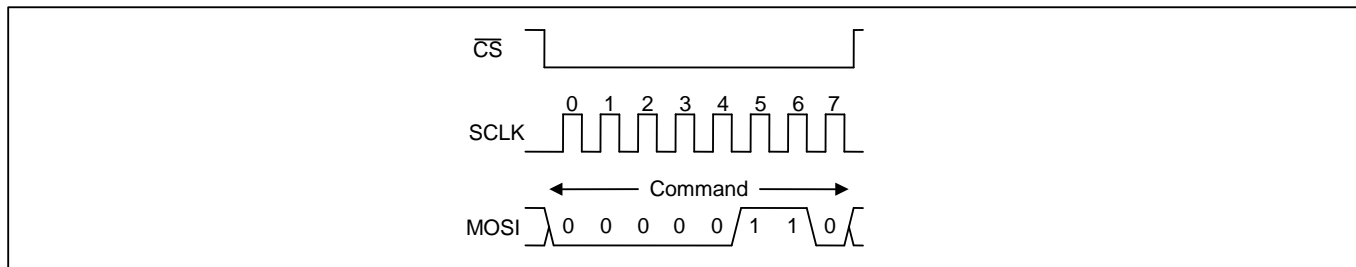
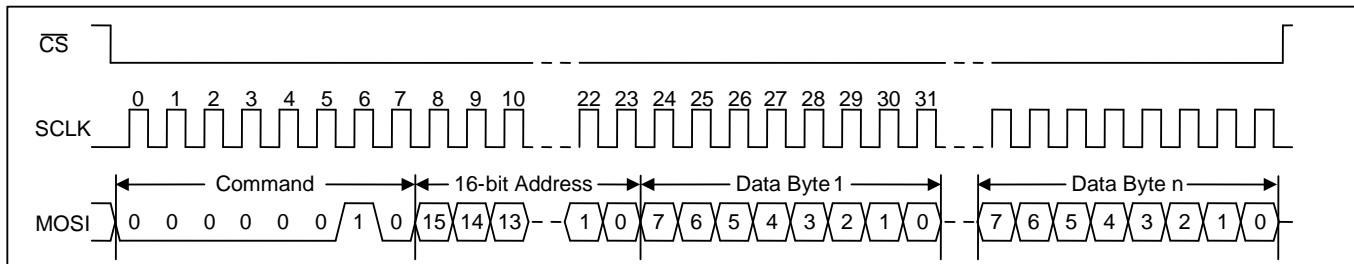

Figure 7 - SPI Write Enable Transaction Functional Timing (ZL30265 and ZL30267 Only)
Figure 8 - SPI Write Transaction Functional Timing
**Register Write Transactions.** The device registers are accessible when  $\overline{\text{ESEL}}=0$ . After driving CSN low, the bus master transmits the write command followed by the 16-bit register address followed by the first data byte to be written. The device receives the first data byte on MOSI, writes it to the specified register, increments its internal address register, and prepares to receive the next data byte. If the master continues to transmit, the device continues to write the data received and increment its address counter. The write transaction is completed when the bus master drives CSN high. See Figure 8.
**EEPROM Writes (ZL30265, ZL30267 Only).** The internal EEPROM memory is accessible when the  $\overline{\text{ESEL}}$  bit is 1. After driving CSN low, the bus master transmits the write enable command and then drives CSN high to set the internal write enable latch. The bus master then drives CSN low again and transmits the write command followed by the 16-bit address followed by the first data byte to be written. The device first copies the page to be written from EEPROM to its page buffer. The device then receives the first data byte on MOSI, writes it to its page buffer, increments its internal address register, and prepares to receive the next data byte. If the master continues to transmit, the device continues to write the data received to its page buffer and continues to increment its address counter. The address counter rolls over at the 32-byte page boundary (i.e. when the five least-significant address bits are 11111). When the bus master drives CSN high, the device transfers the data in the page buffer to the appropriate page in the EEPROM memory. See Figure 7 and Figure 8.